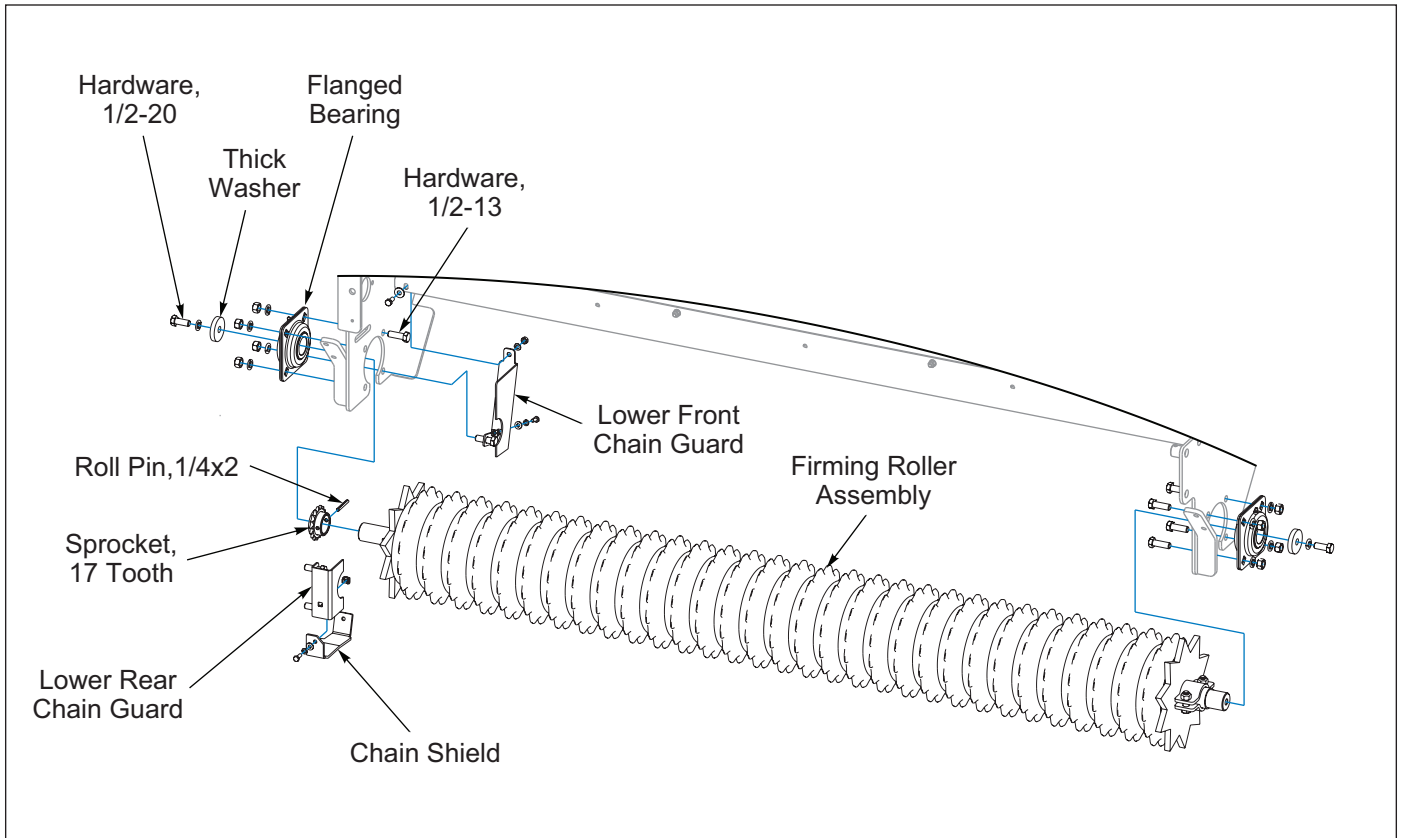

Figure 2-10: Firming Roller Assembly
4. Remove Transmission Upper and Lower Guards. **See Figure 2-10.**